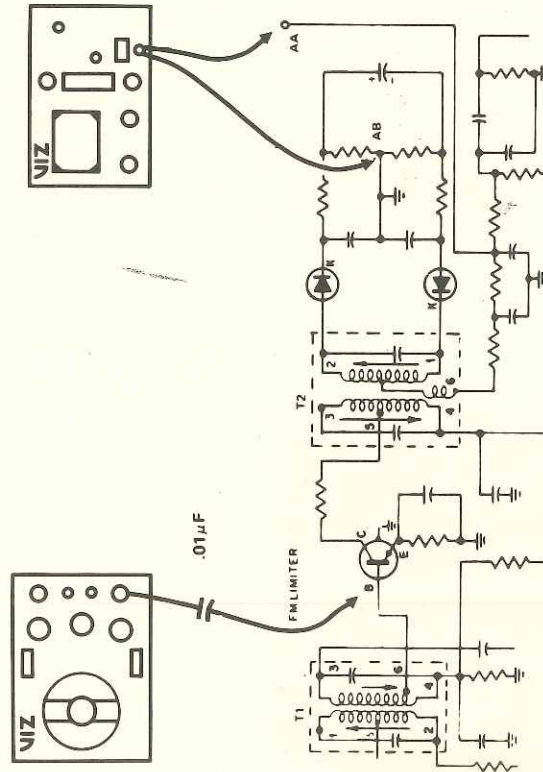

Figure 12. Test equipment connection points for sweep-signal alignment of a typical FM ratio detector.
2. Disable the AGC circuit of the receiver. If necessary, use fixed bias as described in Figure 12. Set the radio dial to a quiet point near 1600 kHz.
Sweep Alignment—Fig. 12 shows the test equipment connection points for sweep aligning a typical FM ratio detector stage. The generator, set to sweep around the 10.7-MHz center frequency with a 10.7-MHz crystal provide a marker, is coupled through a 0.01- μ fd capacitor to the base of the last IF transistor Q1 (also referred to